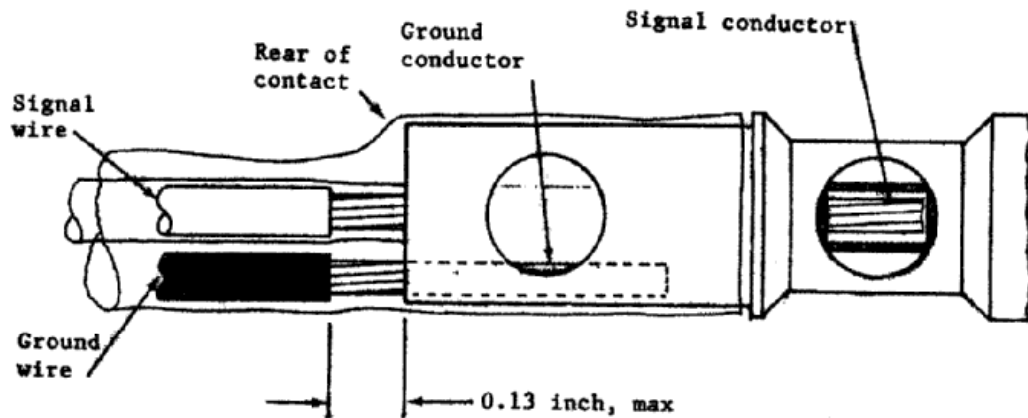

Figure 5-16
- The distance from the contact body to the ground wire insulation shall not exceed 0.13 inch (Figure 5-16).